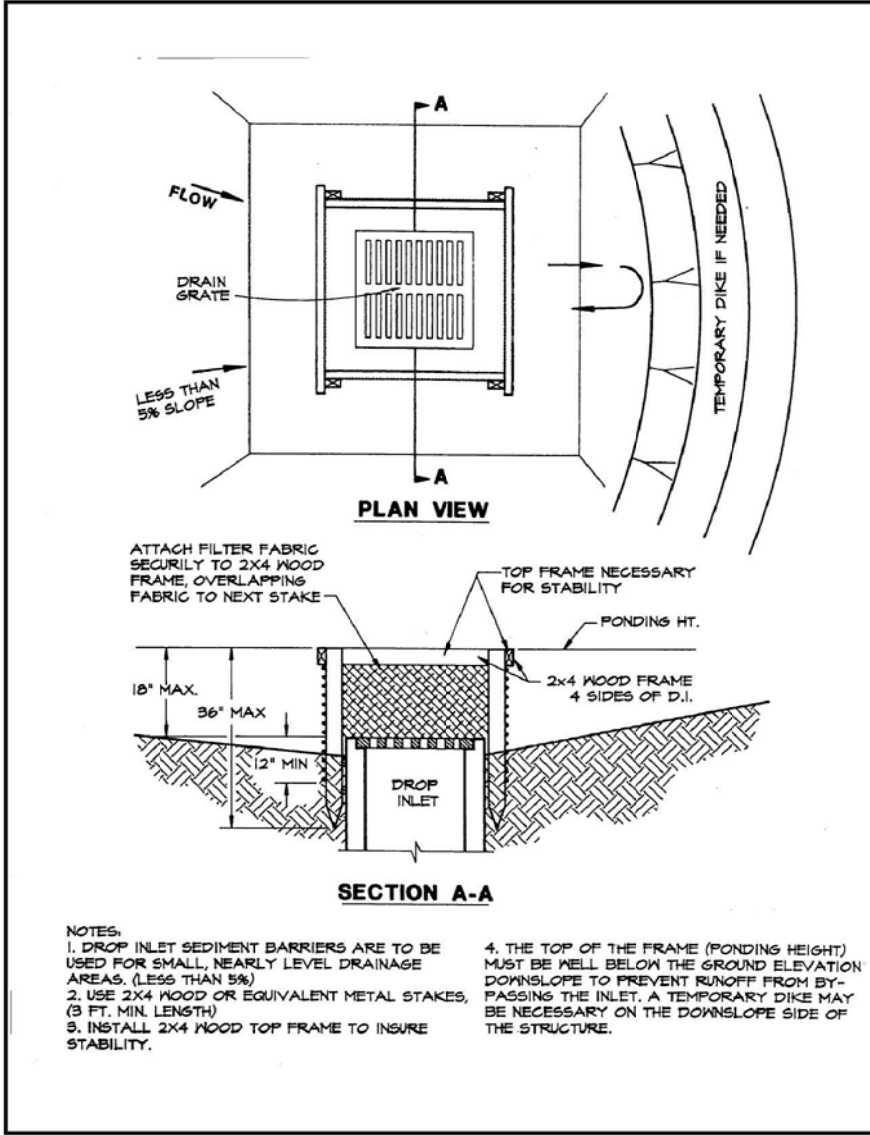

Figure 4.5a. Silt Fence Drop Inlet Sediment Barrier
2. Stakes shall be 2 x 4 inches (5 x 10 cm) wood (preferred) or equivalent metal with a minimum length of 3 feet (90 cm) (see Figure 4.5a).